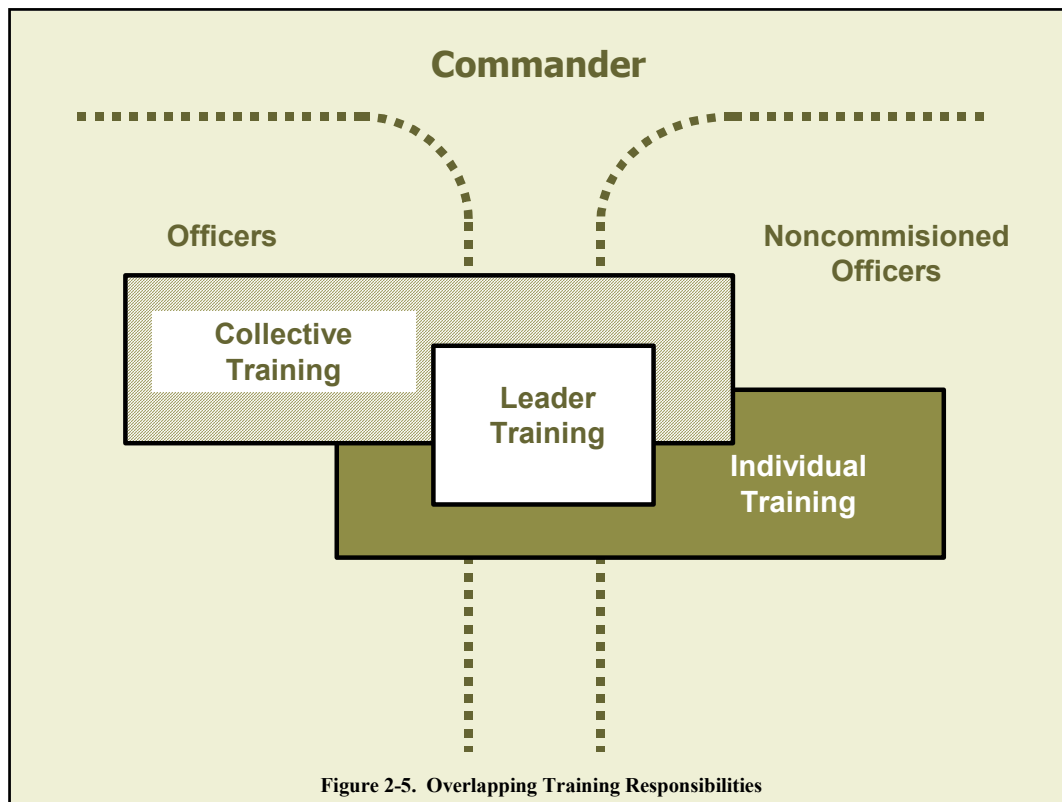

Figure 2-5. Overlapping Training Responsibilities
- Require subordinates to understand and perform their roles in training.** Since good training results from leader involvement, one of the commander's principal roles in training is to teach subordinate trainers how to train and how to fight. The commander provides the continuing leadership that focuses on the organization's wartime mission. The commander assigns officers the primary responsibility for collective training and NCOs the primary responsibility for individual, crew, and small team training. (Figure 2-5). The commander, as the primary trainer, uses multiechelon techniques to meld leader, battle staff, and individual training requirements into collective training events, while recognizing the overlap in training responsibilities: commanders teach, coach, and mentor subordinates throughout.